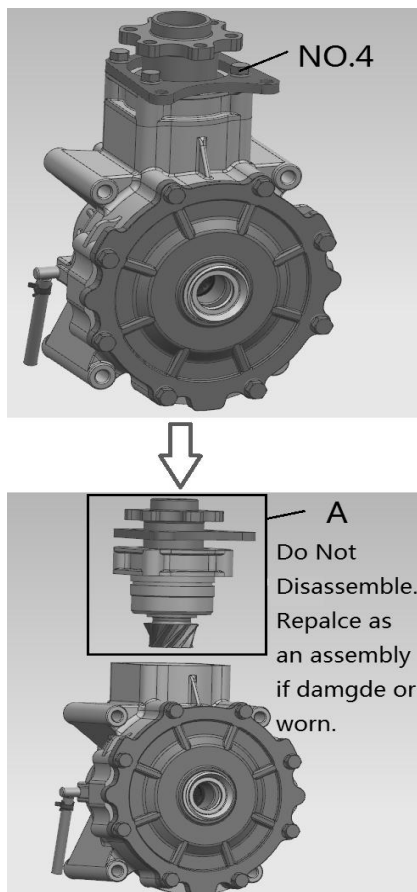

Fig 3
4.Remove the Bolts M8 × 50 (NO.4), Remove assembly (A). →Fig 3